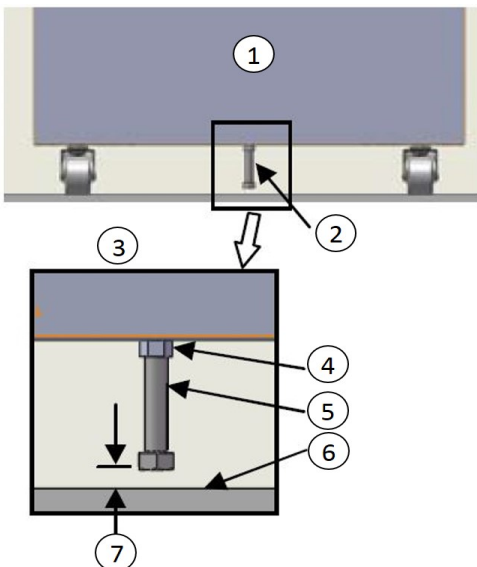

Figure 2. Bolt Location
- Unscrew 1/2" bolt until there is 1/2" clearance between floor and head of bolt as shown in the **Figure 2**.